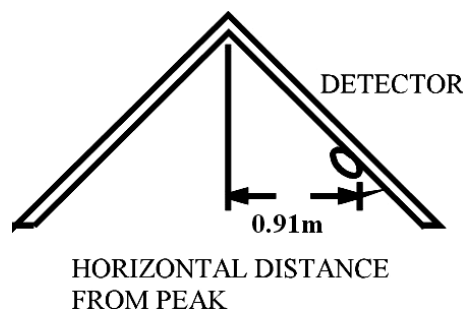

Fig. 5: Recommended location to mount smoke detectors in rooms with a sloped, gabled, or peaked ceiling
- If some of your rooms have sloped, peaked, or gabled ceilings, try to mount detectors 36 inches (0.91 meters) measured horizontally from the highest point of the ceiling as shown **Fig. 5**.
**CAUTION** (As required by the California State Fire Marshall): Early warning fire detection is best achieved by the installation of fire detection equipment in all rooms and areas of the household as follows: (1) A smoke detector installed in each separate sleeping area (in the vicinity, but outside of the bedrooms), and (2) Heat or smoke detectors in the living rooms, dining rooms, bedrooms, kitchens, hallways, attics, furnace rooms, closets, utility and, storage rooms, basements and attached garages.